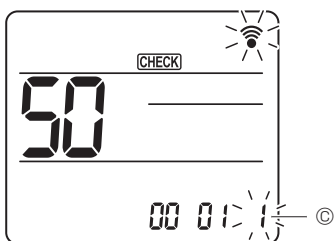

Fig. 15-4
Use the **[↓]** button to change the Setting number ③. (Fig. 15-4)